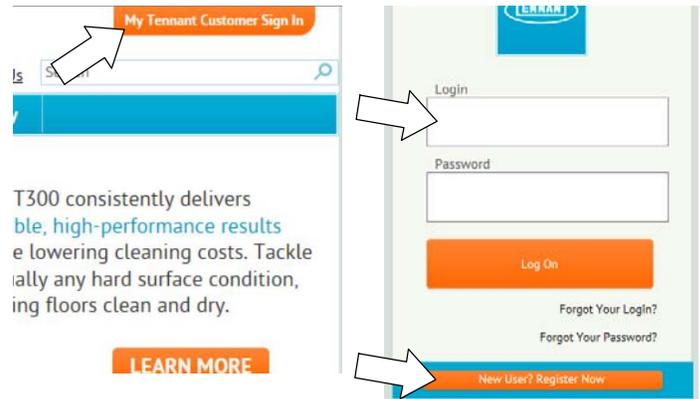

Fig. 20
1. Log in to the “My Tennant” website or register as a new user (Figure 20).